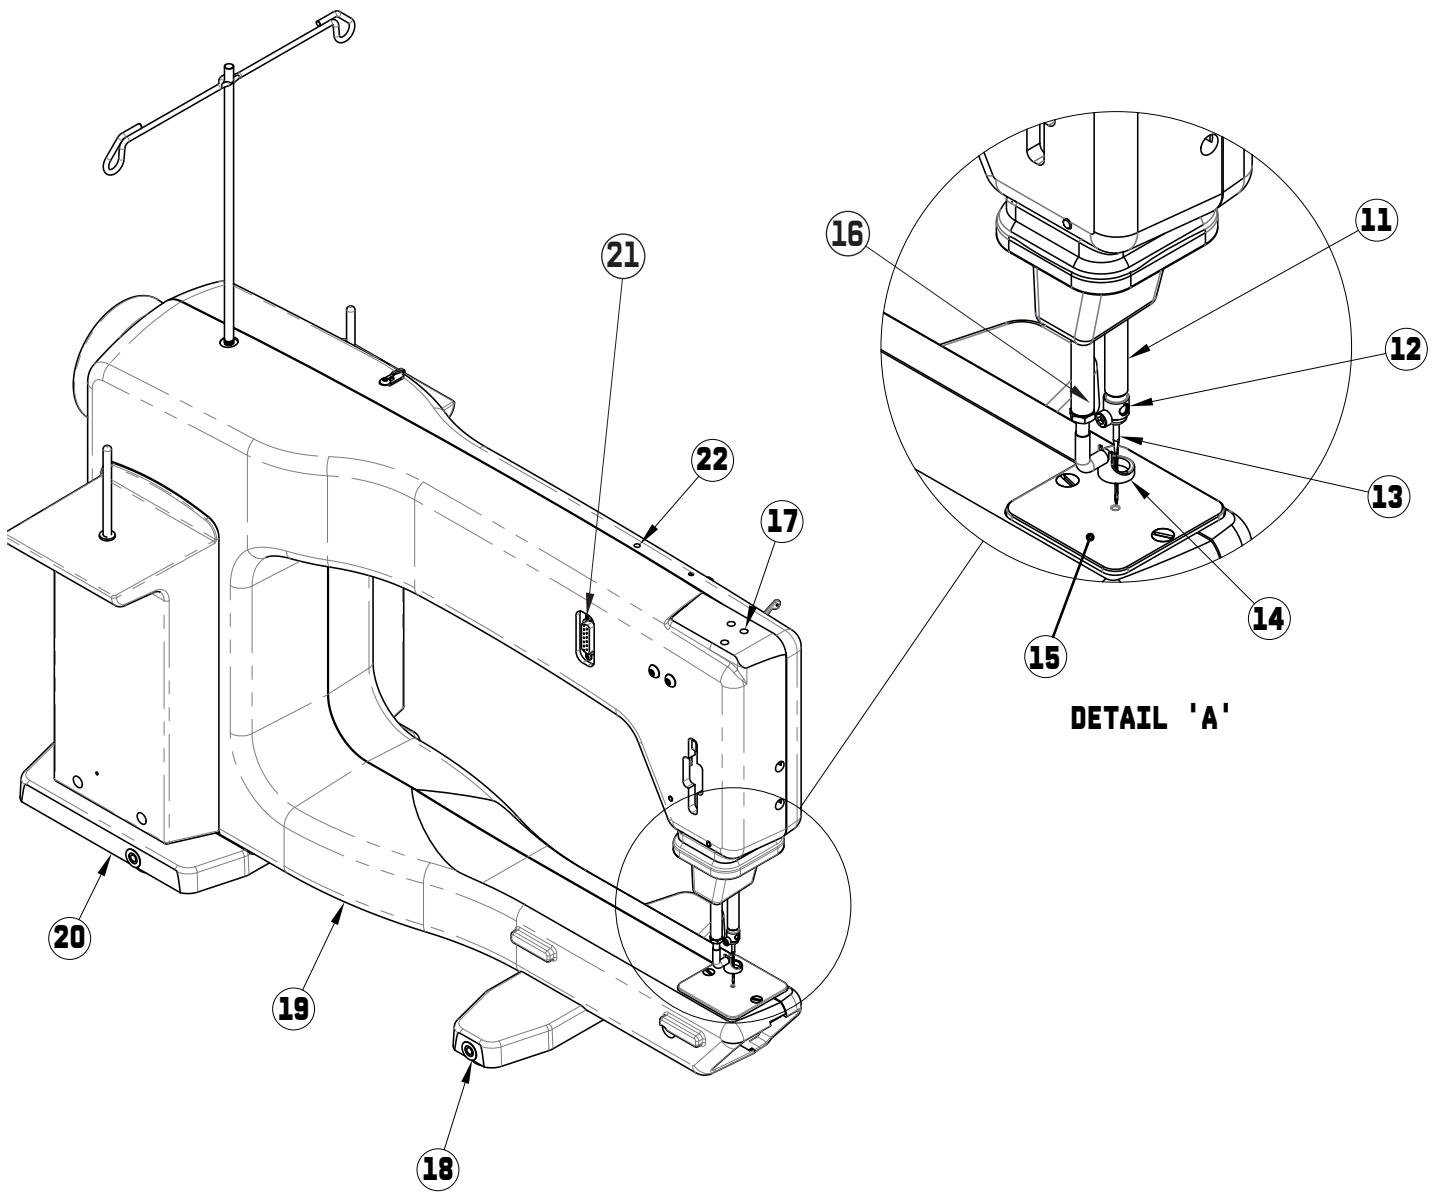

Figure 2
2. There are three holes on top of the machine head (see **page 6, Figure 2, #17**). Only the two holes that are in line with each other are used. Ignore the third hole located to the side of these two holes.
5. Plug the remaining cable end into the display connector located on the side of the machine (**page 6, Figure 2, #21**).